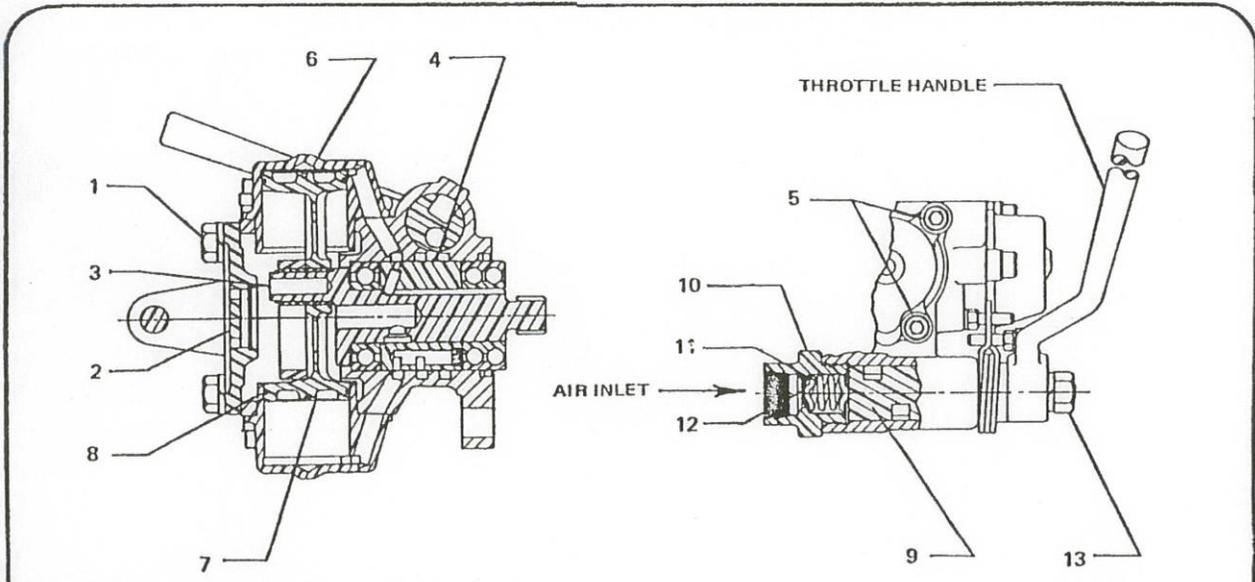
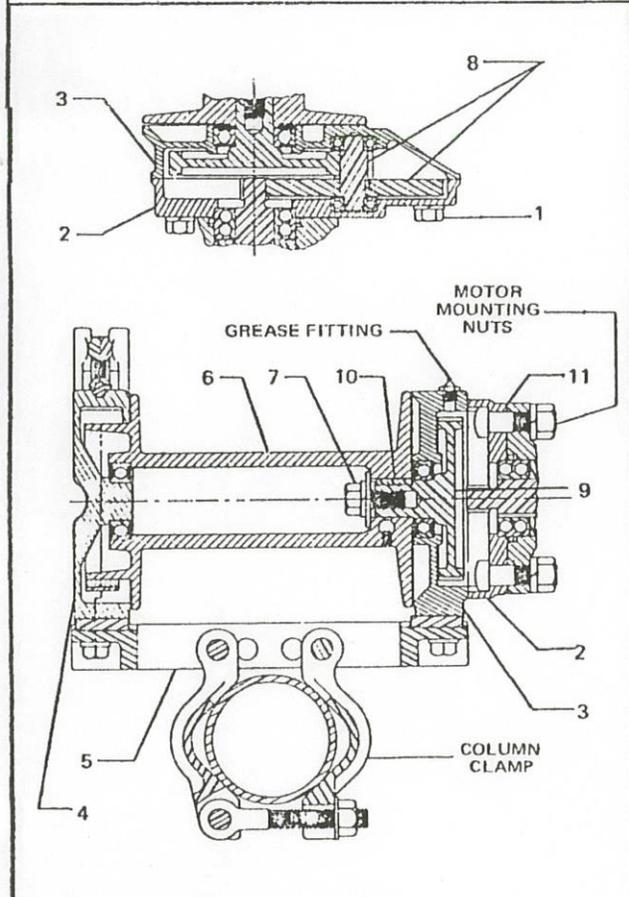

FIG. 1 PISTONAIR MOTOR SECTIONAL VIEW
FIG. 2 WINCH SECTIONAL VIEW
*Gear Housing.* The gear housing is serviced at the factory with grease and, based on intermittent service, requires regreasing only at normal overhaul periods. If it becomes necessary to add grease before overhaul, add grease through the pressure grease fitting (see Fig. 2). Do not overgrease; this will cause leakage of grease around the drum flange. Use a high temperature bearing grease, specifications as follows:
**Disassembling Pistonair Motor.** (See Fig. 1) Remove the two nuts and lockwashers holding the motor to the winch, then pull off the air motor. Remove the four capscrews (1) and remove the cover (2). Lightly tap the end of the crankshaft (3) and remove the crankshaft and distributing valve (4). Next, take out the socket head capscrews (5) and remove each cylinder head (6). Pull the cylinder heads straight off the pistons (7) to avoid breakage of piston rings (8). Remove the yoke-type pistons through the opening for the cover (2). To remove the throttle valve (9) unscrew the inlet bushing (10). Do not lose the spring (11) and strainer (12). Take off the hex nut (13) and remove the throttle handle. Push the throttle valve (9) out through the inlet side.
**Disassembling Hoist Unit.** (See Fig. 2) Remove the six capscrews (1) holding the end bracket cover (2) to the R.H. end bracket (3). Carefully pull the cover straight off. Avoid hammering on this cast iron cover. Next, remove the four capscrews which hold the L.H. support (4) to the frame (5). Lightly tap the support (4) and brake assembly away from the drum (6). The brake must be released. Remove the large capscrew (7) and washers inside the drum (6). Remove gears as follows: Pry off the intermediate gear and pinion assembly (8). Replace the large capscrew (7) - minus washers - in the end of the main gear (9). The screw will act as a thread protector and the main gear can be driven out of the R.H. end bracket (3) by using a long drift through the drum bore and applying force on the screw head. Avoid striking the key (10).
**Reassembling Hoist Unit.** In general, assembly is accomplished in the reverse order for disassembly. Use a soft metal hammer when replacing gears and bearings, and make sure no chips from drifts or hammer are allowed to remain in the gear housing. Remember to replace the square head motor mounting bolts (11) in the end bracket cover (2) before replacing the cover on the R.H. end bracket. Service the gear housing as instructed under *Lubrication at Overhaul* after Pistonmotor is mounted.
**Reassembling Pistonair Motor.** (See Fig. 1) Extreme care should be taken to see that ring grooves, pistons, and cylinder heads are perfectly clean. Use care in replacing piston rings (8) — they are brittle and can be easily broken. Replace the pistons (7) in the housing; the pistons are interchangeable and can be placed only one way in the housing. Avoid canting the cylinder heads (6) when replacing; push them squarely over the pistons. Tighten
**Important:** Do not use the reference numbers on Fig. 1, 2, and 3 when ordering parts. They are used only as a reference in describing the instructions given and bear no relation to the actual part numbers. Consult the parts list section of this catalog for part numbers.